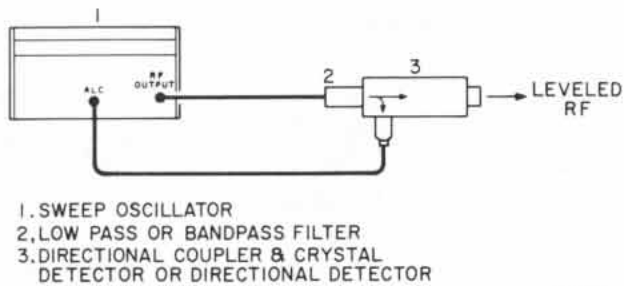

Figure 3-12. Coaxial Leveling Loop Using Crystal Detector
3-112. The RF power leveling capability of the systems illustrated in Figures 3-12 through 3-17 is determined mainly by the frequency-dependent performance variables of the RF sampler and RF detector. Coupling variation with frequency, coupler-to-detector mismatch, coupler directivity and detector frequency response all affect leveling. The level variations given in Tables 3-3 and 3-4 are those resulting from the maximum effect of the error sources present in leveling loops assembled from components listed in Tables 3-1 and 3-2. However, the error effects in such leveling systems are vector quantities having phase relationships which vary with frequency and do not always cause maximum error. Rather, total error is more usually the rms of the error quantities. Therefore, leveling likely will be better than indicated but the performance figures given permit comparing the capabilities of the systems illustrated in Figures 3-12 through 3-17.
3-127. Figures 3-12 through 3-17 illustrate closed loop leveling systems for automatically leveling the Sweep Oscillator RF power output. The systems of Figures 3-14 and 3-17 each use two directional couplers to minimize coupling variation with frequency. The coupling variation of one coupler compensates for the coupling variation of the other, reducing coupling inaccuracy to the difference in coupling characteristics between the couplers. This remaining factor can be effectively eliminated with couplers selected for nearly identical coupling characteristics. Such matched couplers are available from Hewlett-Packard in various combinations of coupling attenuation. For each combination, attenuation accuracy between main and secondary line output is specified and is typically ± 0.2 db or better. Matched coupler model numbers for the waveguide frequency ranges covered by the Models 691A, 692A, 693A, and 694A are given in Table 3-2. Model numbers given provide correct coupling attenuation for the Sweep Oscillator of the same frequency range.
a. Assemble the leveling loop of Figure 3-12, 3-13, or 3-14 using appropriate equipment from Table 3-1 or Table 3-2.